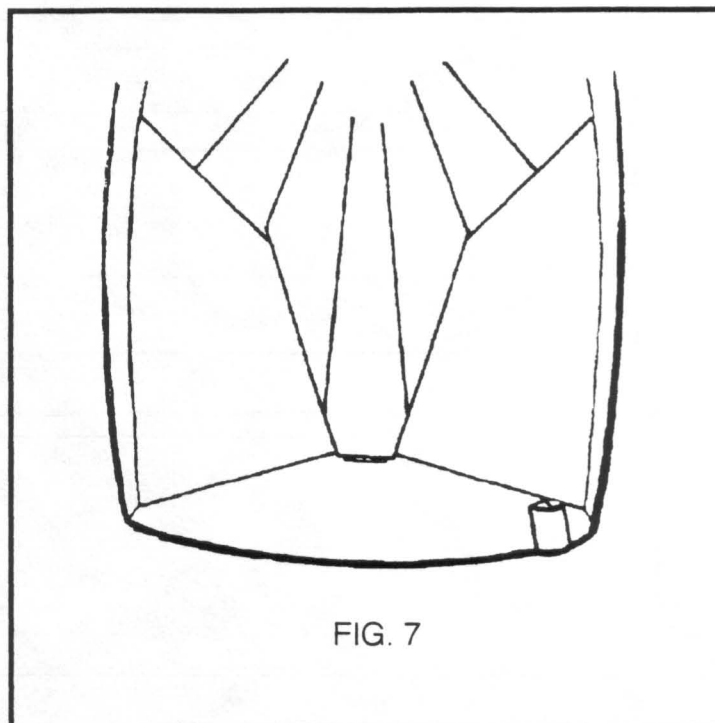

FIG. 7
- 7) Close the top flap protector by tucking the "tongue" underneath the flaps (FIG. 7)